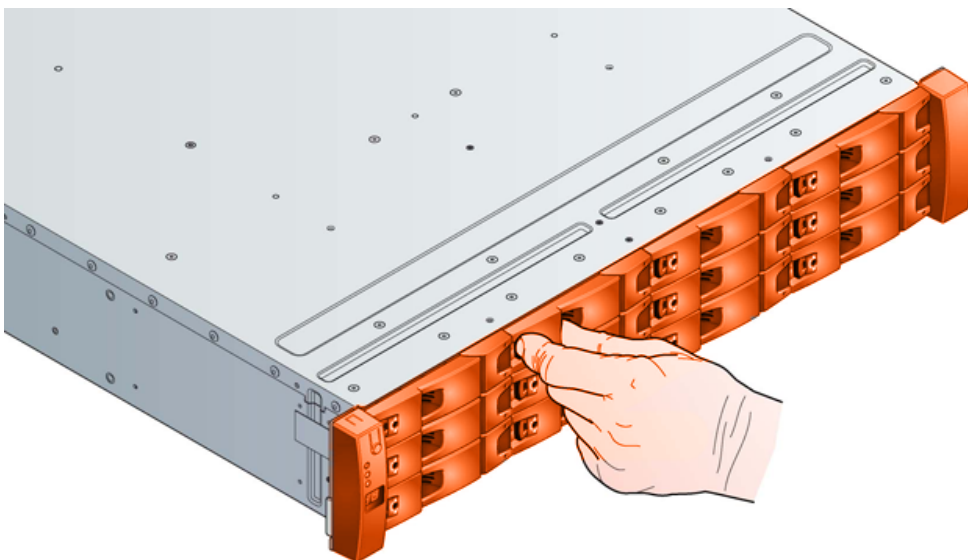

Figure 6-5 - Removing a Drive Carrier Module (1)
2. Release the carrier handle, by pressing the latch in the handle towards the handle hinge (i.e. towards the front of the enclosure), see Figure 6-5).